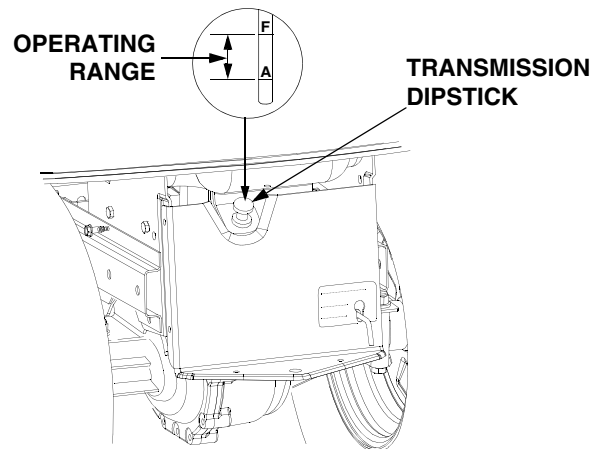

Figure 20
Check the oil level of the transmission case before each use to see that it is filled to the correct level. Before checking the transmission oil level, clean the area around the oil fill plug/dipstick to prevent debris from entering the transmission case. Always keep the oil level between the “FULL” and the “ADD” marks on the dipstick (See Figure 20). When checking the oil level, the dipstick must be withdrawn and wiped clean, then inserted all the way before being withdrawn for a true reading.
3. Remove the oil fill plug/dipstick from the oil fill port and SLOWLY pour oil into the oil fill port. Fill the transmission case until the oil level reaches the “FULL” mark on the dipstick (Refer to Figure 20).
- Remove the oil fill plug/dipstick from the oil fill port and **SLOWLY** pour oil into the oil fill port. Fill the transmission case until the oil level reaches the "FULL" mark on the dipstick (Refer to Figure 20).